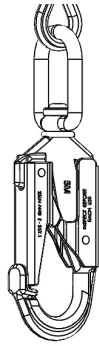

Figure 5f
- v) Be sure the hoist line crimps, thimble, swivel and snap-lock connectors are in good condition and functioning as intended. See Figure 5f.